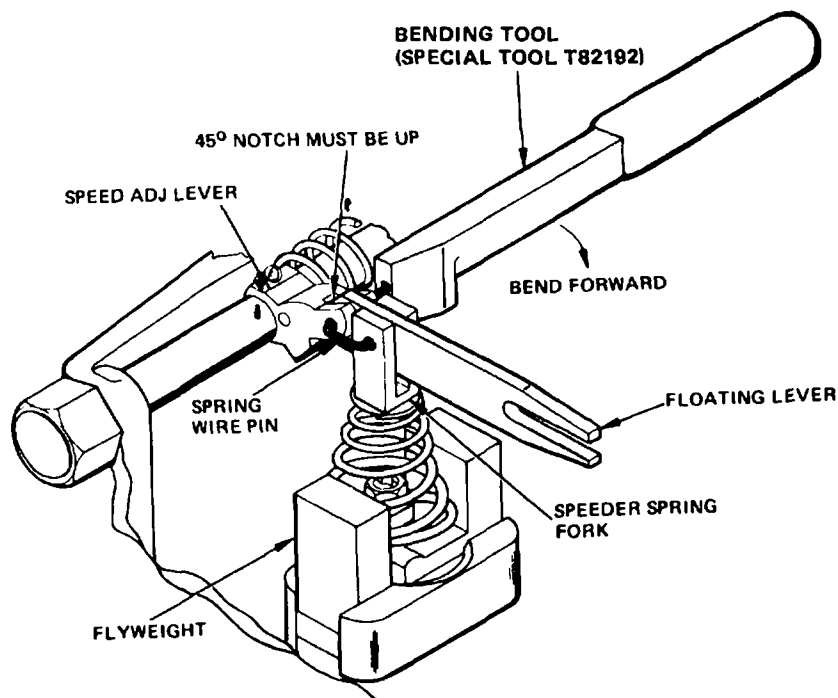

Figure 11-27. Governor Speed Adjusting and Floating Lever Assembly
(31) Tap cotter pin (35) through lever (34) and shaft (37).
(32) Place torsion spring (36) over shaft (37). Make certain end of spring rests in hole at side of lever (34).
(33) Place speed assembly (34 through 37) into speed adjust assembly (30).
(34) Tighten sleeves (30 and 38) a torque of 30 foot-pounds (40.67 Newton-meters).
(35) Position floating lever (33) in speed adjust lever (34). Refer to figure 11-27.
(37) Bend pin (32) with bending tool (Special Tool T82192) as shown in figures 11-27 and 11-28.